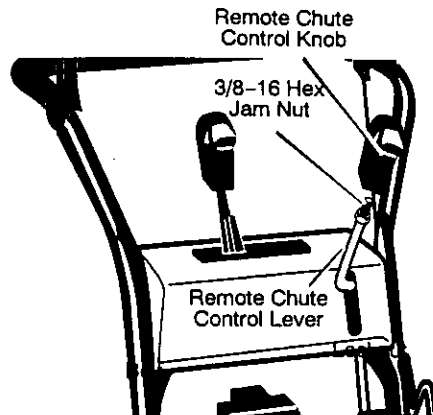

Figure 13
1. Thread the 3/8-16" hex jam nut onto the lever until the nut reaches the end of the thread. See Figure 13.